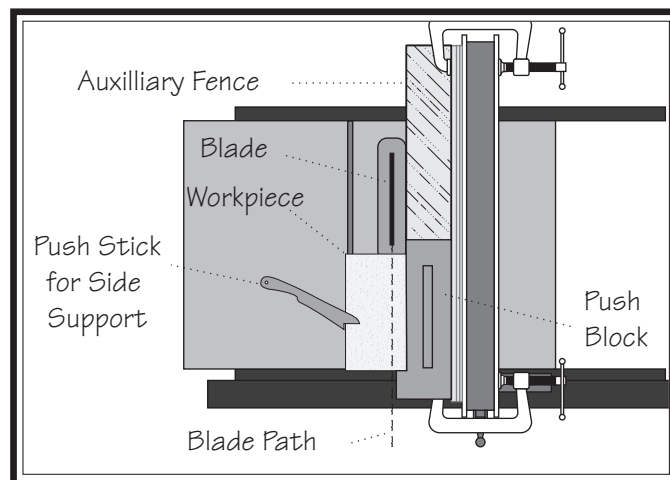

Figure 99. Push block in position to push workpiece through blade.
3. Place workpiece 1" behind blade and evenly against table and auxiliary fence as illustrated in **Figure 99**.